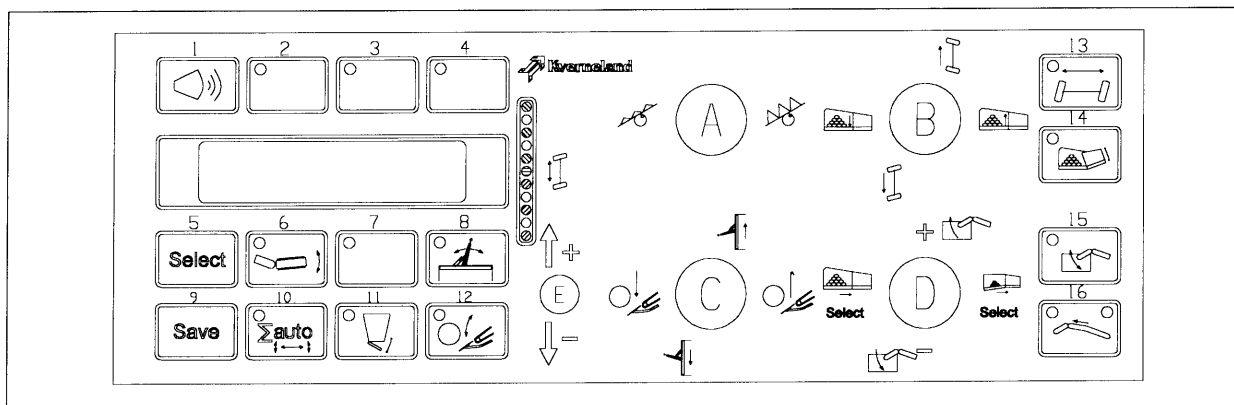

Fig. 32-1
The lane adjustment is hydraulically operated with a joystick at the control panel (Fig. 32-1). The diablo rollers must run in the middle of the ridges.
The wheel steering is controlled with joystick B on the panel (Fig. 32-1). The wheels' position is displayed by the indicator in front of the harvester (Fig. 43-4) or in the display of the control panel (only when automatic wheel centre positioning is fitted).
This function is activated by key 13 on the control panel (Fig. 32-1) The auto mode is deactivated by a touch on the relevant key, or by using the relevant joystick.
The position is indicated by the light diodes on the panel (Fig. 32-1).